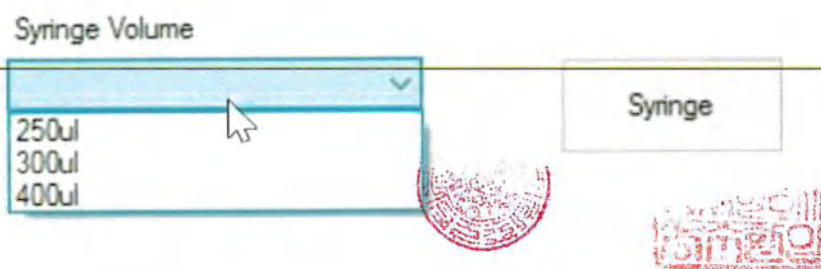

Figure 62
9.5.7.8 If you click the Calibration button in the Service form, the Calibration Form is displayed. Click the drop-down menu in the Syringe Volume area to view the calibration lists [Figure 62].